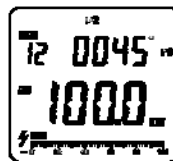

Figure 11
- After sum up the current power measurement value of the first phase, then press **SELECT** to choose the second phase $\varnothing 2$, as figure 11.